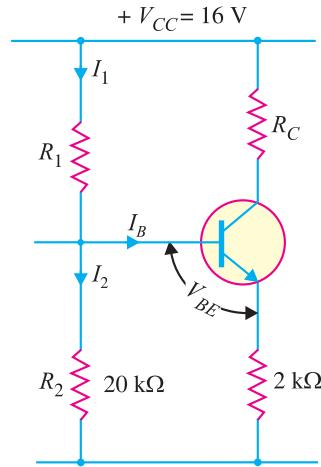

Fig. 9.32
**Example 9.26.** An npn transistor circuit (See Fig. 9.32) has  $\alpha = 0.985$  and  $V_{BE} = 0.3 \text{ V}$ . If  $V_{CC} = 16 \text{ V}$ , calculate  $R_1$  and  $R_C$  to place Q point at  $I_C = 2 \text{ mA}$ ,  $V_{CE} = 6 \text{ volts}$ .